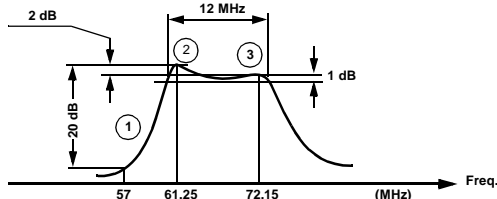

Figure 8
5. Repeat steps 1 to 4 until lower and higher side band peaks agree with 61.25 MHz (marker - 2) and 72.15 MHz (marker - 3) Refer to Figure 8